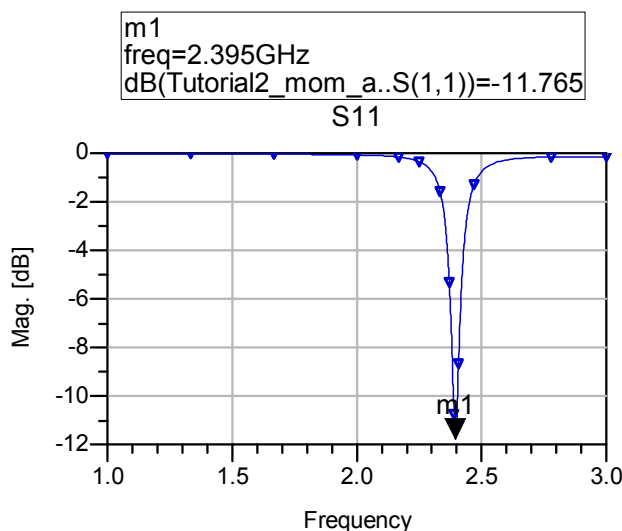

Figure 10.
18. After the simulation is completed, go to the Display Window and place a marker on the S_{11} trace to find the center frequency of operation. Once you locate this center frequency of operation, you can simulate the structure at this frequency to calculate the current distribution over the surface of the antenna and its feeding structure. The new S_{11} response is shown in Figure 10; as the marker indicates, the center frequency of operation is at 2.395 GHz; simulate the structure, this time only at 2.395 GHz